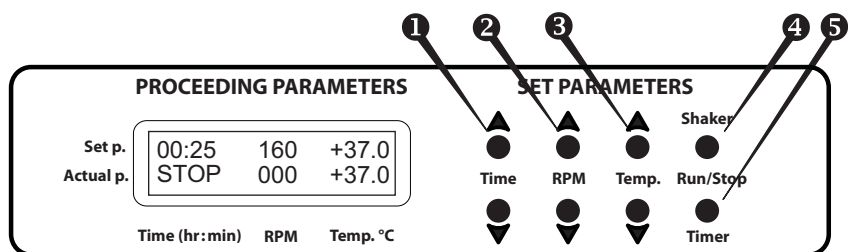

Fig.2 Control panel
- 4.3. Using the ▲ and ▼ **Time** keys (Fig. 2/1) set the required working time interval in hours and minutes (increment - 1 min). Pressing the key for more than 3 sec will increase the increment.
- 4.4. Using the ▲ and ▼ **RPM** keys (Fig. 2/2) set the required shaking speed (increment 10 RPM). Pressing the key for more than 3 sec will increase the increment.
- 4.5. Using the ▲ and ▼ **Temp.** keys (Fig. 2/3) set the required temperature (increment 0.1°C). Pressing the key for more than 3 sec will increase the increment.
- 4.7. Press the **Shaker-Run/Stop** key (Fig. 2/④). The platform will start rotating and the timer indicator will start counting up the time interval (with 1 min precision).
Caution! At the end of the set time period the platform movement is stopped automatically, but the heating can be stopped ONLY manually by reducing the temperature using the ▼ **Temp.** key (Fig. 2/⑤ – the lower key) till the OFF sign appears in the upper line of the display.
- 4.10. The timer can be reset during operation if required. Press the **Timer-Run/Stop** key twice (Fig. 2/⑥) (first – to stop the timer, second – to restart the timer).